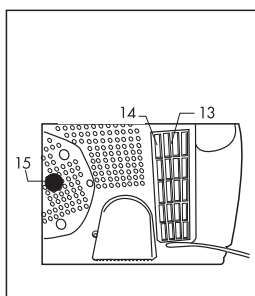

Fig. 16
Clean the vacuum filter (14) at regular intervals. To do so, disengage the filter cover (13), Fig. 16. Shake the filter and wash it with clean water if necessary. Once dry, reposition the filter in its seat and refit the filter cover (13).